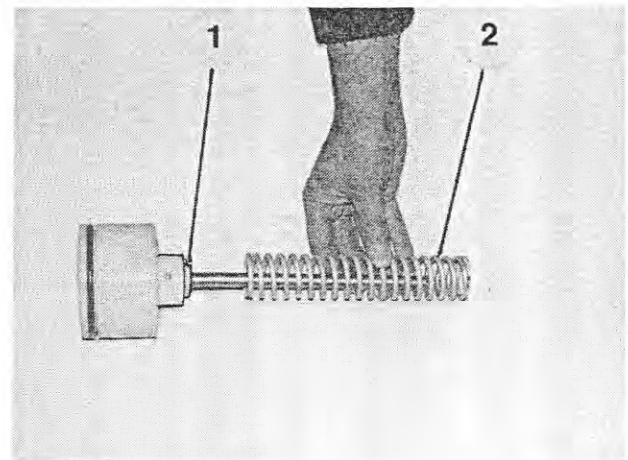

Fig. 237
3. Remove the pressure spring (Figure 237/2) from the piston rod.
Place the pressure spring on the spring seat (Figure 237/1) of the piston.